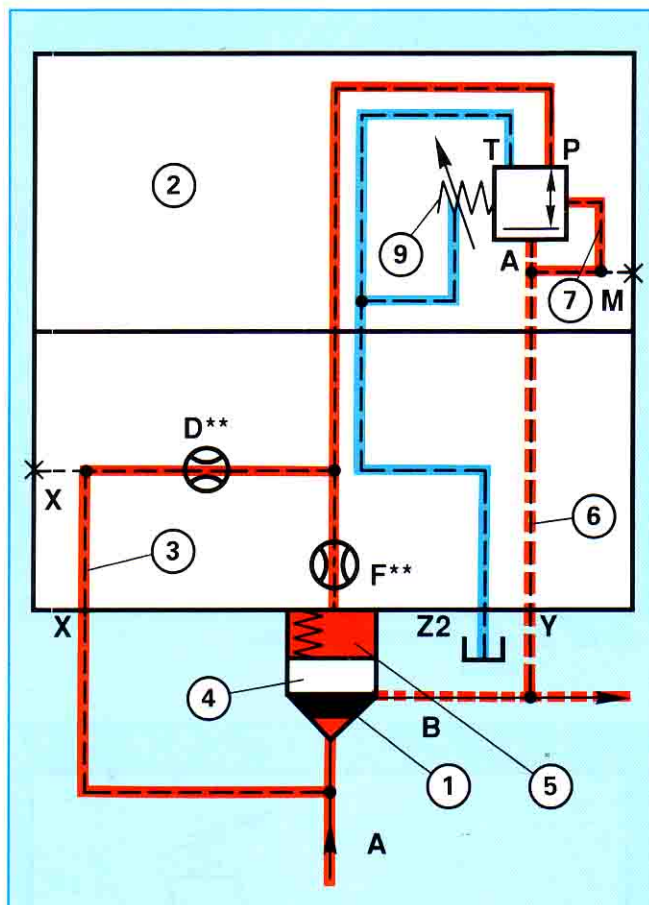

Fig. 126 ** = Orifice
With the arrangement shown in Figs. 126 to 128, the pressure reducing valve is closed in the start position. For this purpose, a pressure relief logic element (1) is used as the main valve and a pressure reducer valve (2) as the pilot valve. Pilot control oil is taken from the inlet side (port A) of the main valve via control line (3), orifice D and the open reducer valve (P to A) to the outlet side (port B).
When the directional valve is moved to position a, the function described in section 2.2 (Figs. 126 and 128) is achieved.